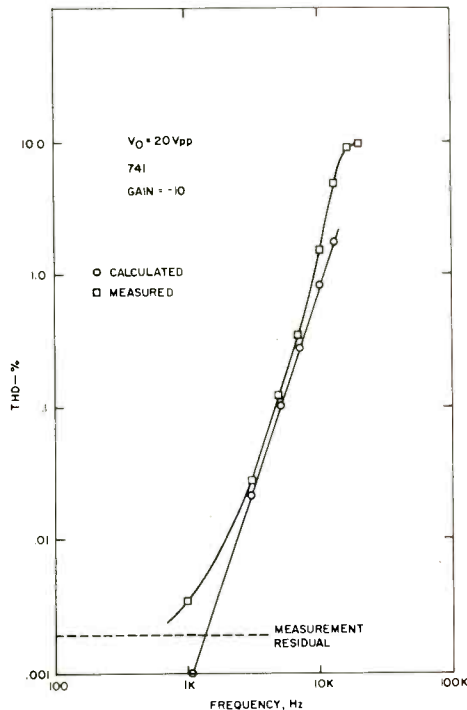
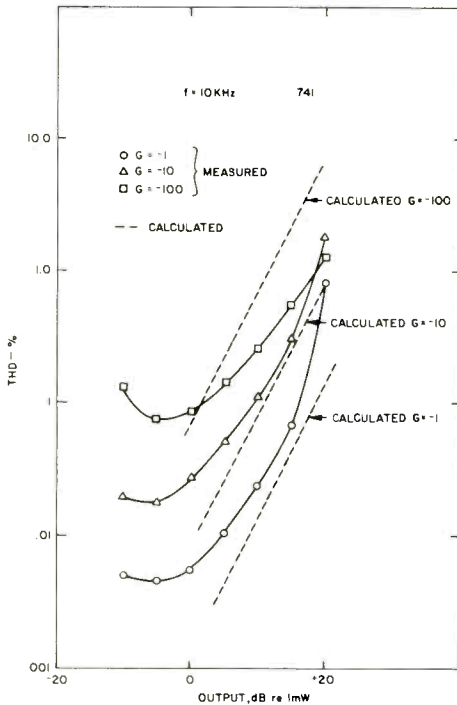

Fig. 31 — Calculated and measured distortion vs. frequency for a 741 at a gain of -1.
Fig. 34 — Distortion vs. output level for a 741 at various gain levels.
Equation (35) shows that harmonic distortion should vary directly with the cube of the input frequency, directly with the square of output voltage, and inversely with the feedback factor,  $\beta$ . In order to test the accuracy of this equation, calculated data for distortion was compared directly with measured THD data from a 741 amplifier. Figures 31, 32 and 33 compare calculated and measured distortion for a constant-amplitude, swept-frequency test condition for three values of feedback factor,  $\beta$ . Figure 34 compares calculated and measured distortion for a constant-frequency, swept-amplitude test condition, also for three values of feedback factor. The agreement is generally good and is excellent for the swept frequency tests. At lower distortion levels, the agreement deteriorates due to the noise floor of the distortion analyzer.
At higher distortion levels, the agreement deteriorates due to large distortion conditions, that is, the fundamental assumptions in developing the calculation are violated. The anomalous behavior of the  $G = 100$  test results is due to the loop gain falling below unity at 10 kHz, which also violates a basic assumption of the calculation. Figure 34 indicates an additional crossover type of distortion that dominates at low signal levels and masks the true distortion characteristics. It should be clear from all the figures that increasing feedback reduces distortion.